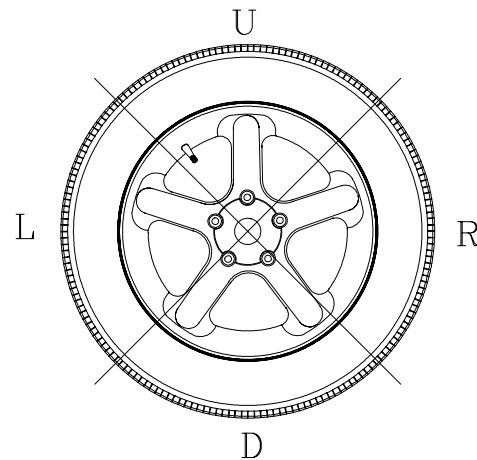

Figure 25
**C.** The wheel weight could have been placed at a wrong position. To check this, position the wheel at the correction position for the outer plane. If the wheel weight previously attached is in sector **'L'** or **'R'** ( Figure25), move the wheel weight up about 1" (2.54cm).